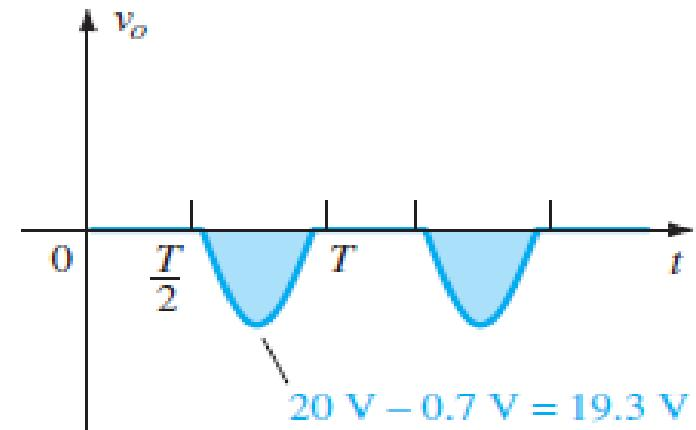

FIG. 2.51
- B. For a silicon diode, the output has the appearance of Fig. 2.51, and $V_{dc} \approx -0.318(V_m - 0.7 \text{ V}) = -0.318(19.3 \text{ V}) = -6.14 \text{ V}$ The resulting drop in dc level is 0.22 V, or about 3.5%.